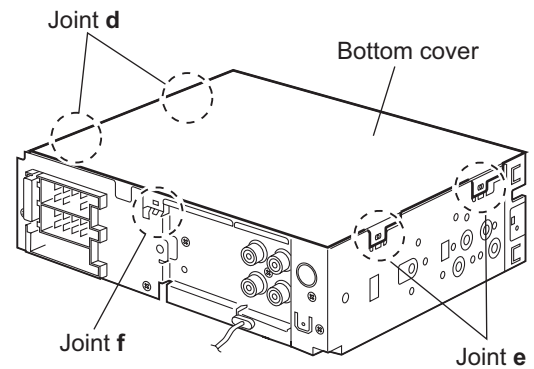

Fig.6
2.1.4 Removing the bottom cover (See Figs.6 and 7)
Do not damage the main board when releasing the joint **d** using a screwdriver. (See Figs.6 and 7)